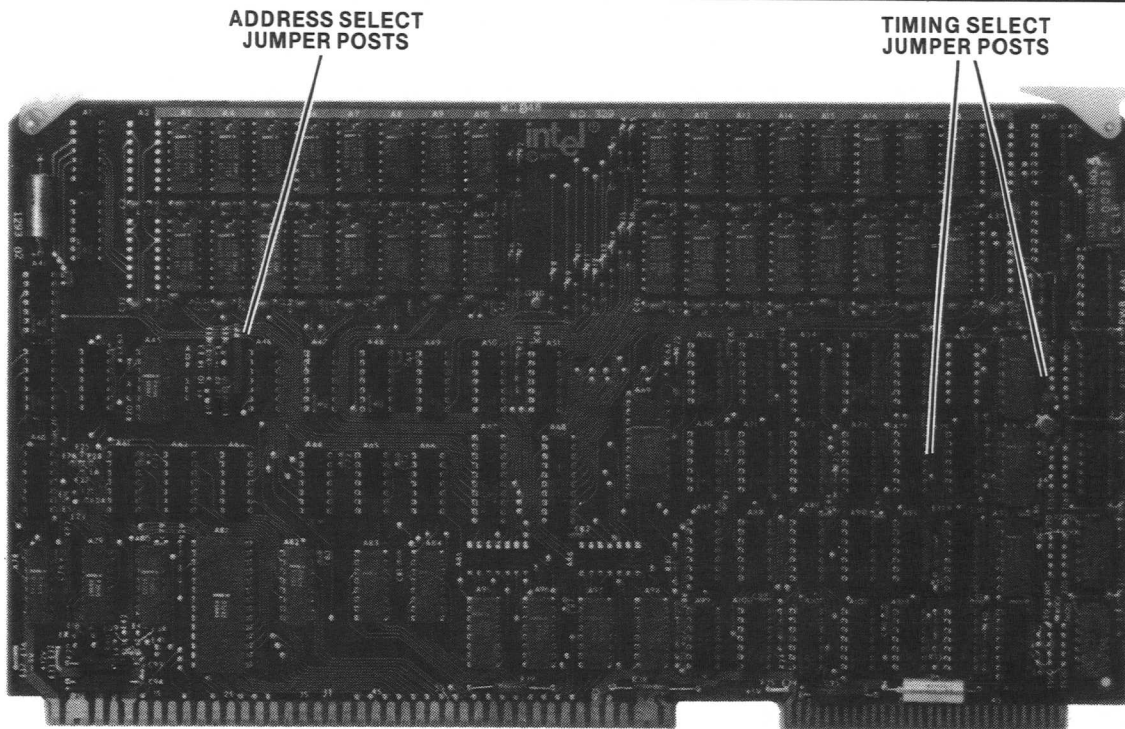

Figure 4-5. iSBC-032™ 32K RAM Board Jumper Post Locations
1. Refer to figure 4-5 and configure jumper post shorting plugs as follows to select proper address block and timing: